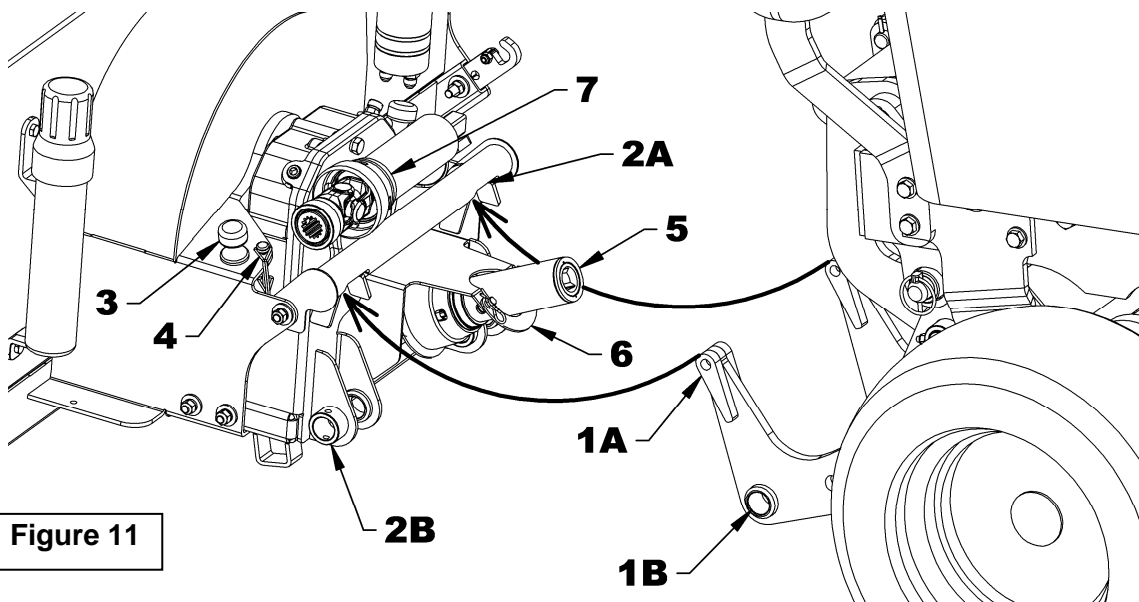

Figure 11
PRECAUTIONS BEFORE each connection (figure 11)
Steps to Connect the Snowblower (figures 11 to 17)
➤ **STEP 1: Figure 11:** Start the tractor, remove the parking brake, slowly move forward, making sure that the snowblower female hitch is properly aligned with the tractor male hitch. Lower the tractor male hitch sufficiently so that the two upper ends of the hitch (item 1A) can fit into the tube openings (item 2A) of the snowblower female hitch.
➤ **STEP 2: Figure 11:** Using the tractor hydraulic control lever, lift the snowblower completely upward to position the snowblower hitch with the tractor male hitch. This step will allow the male hitch bushings (item 1B) to align well with the bushings of the female hitch of the snowblower (item 2B).